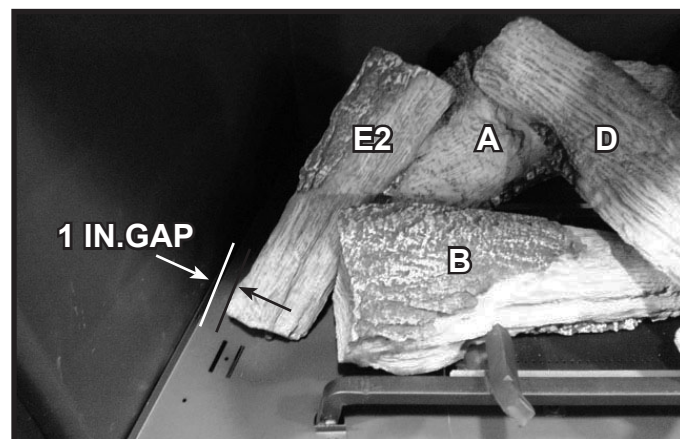

Figure 11. Log E2 Installed
7. **(LOG E2):** Place Log E2 into appliance as shown in Figure 11. The base of the log should be positioned against the pin indicated in Figure 4 for Log E2. The top side should rest against Log A. The base end of Log E2 should be approximately one inch from the left side of the firebox if no refractory is present. This distance will be about 1/4 inch if the optional brick refractory is installed or 3/4 inch if the optional black glass refractory is installed.